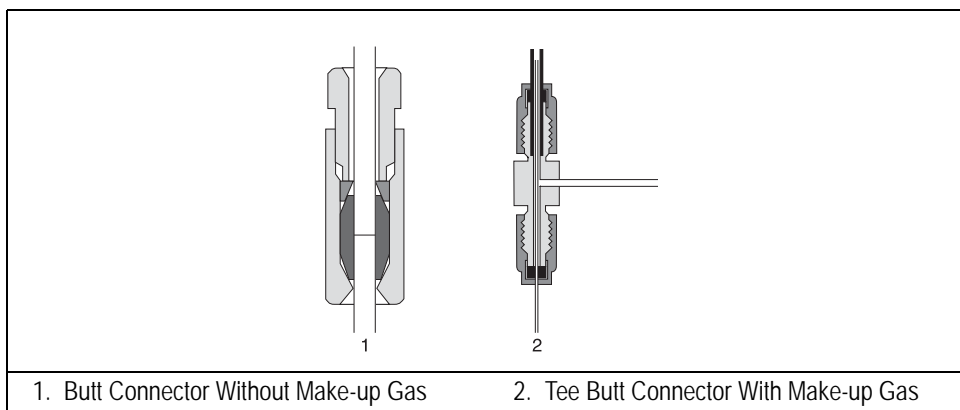

Figure 14-3. Butt Connectors
Figure 14-3 shows butt connectors for different applications.
- Figure 14-3 part 1 shows a butt connector with a single Vespel[®] or graphite ferrule used to connect a pre-column to an analytical column with the same diameter.
- Figure 14-3 part 2 shows a butt connector with make-up lines used to connect a pre-column, normally wide-bore, to an analytical column with a smaller diameter. The make-up line supplies a make-up gas to effectively flush the connection.